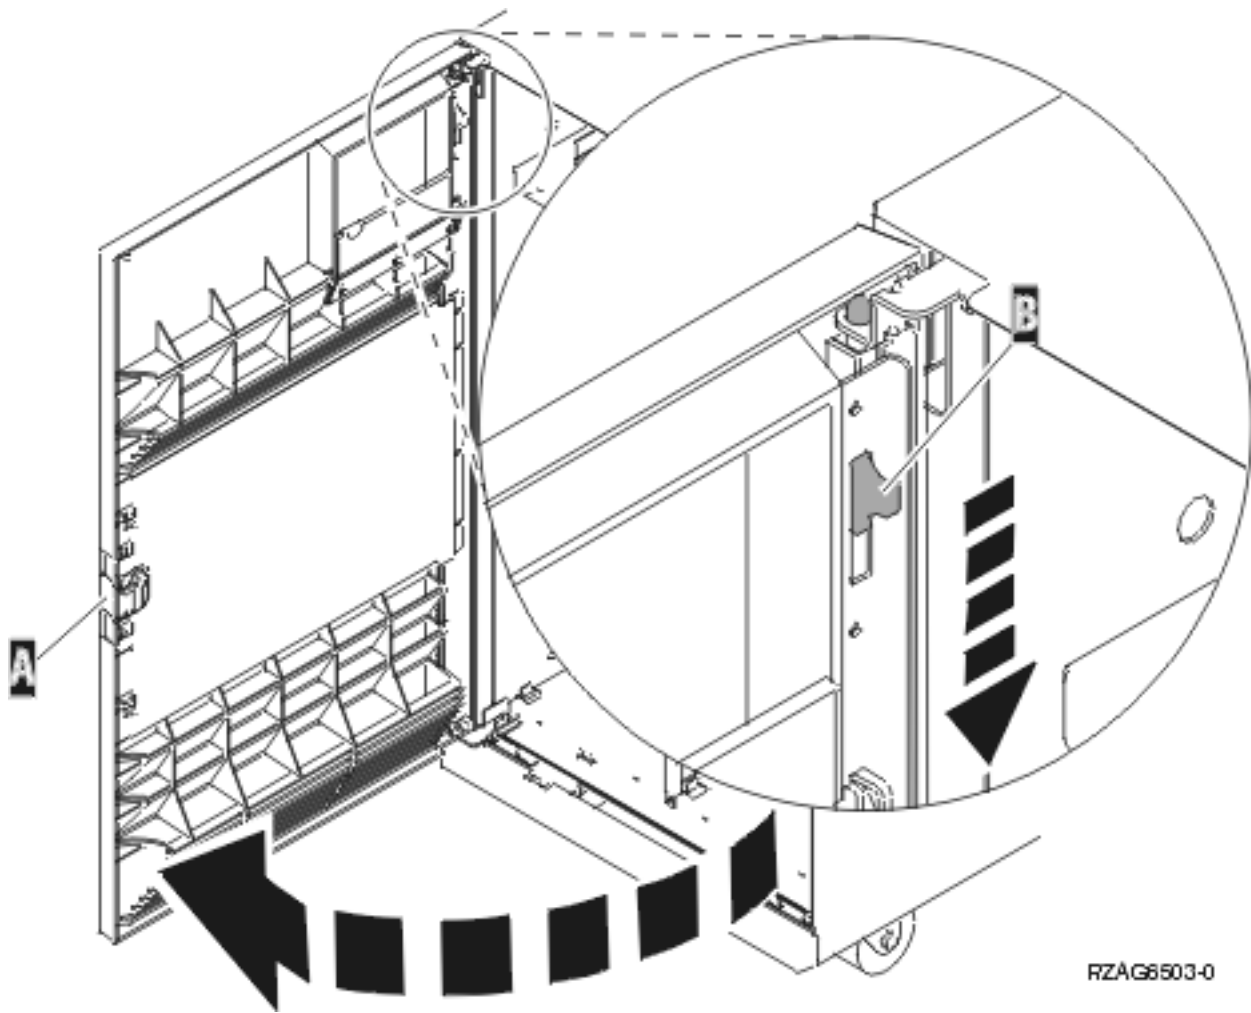

Figure 79. Front cover - removal
- To open or remove the front cover, refer to Figure 79 on page 480.